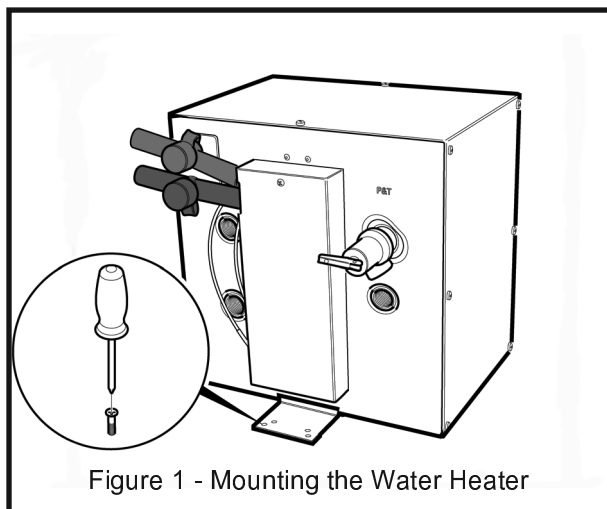

Figure 1 - Mounting the Water Heater
Step 1 Secure mounting brackets to structure with eight #12 minimum screws or ¼" (6.3mm) screws and nuts (See figure 1.). The minimum mounting surface depth is ½" (12.5mm).